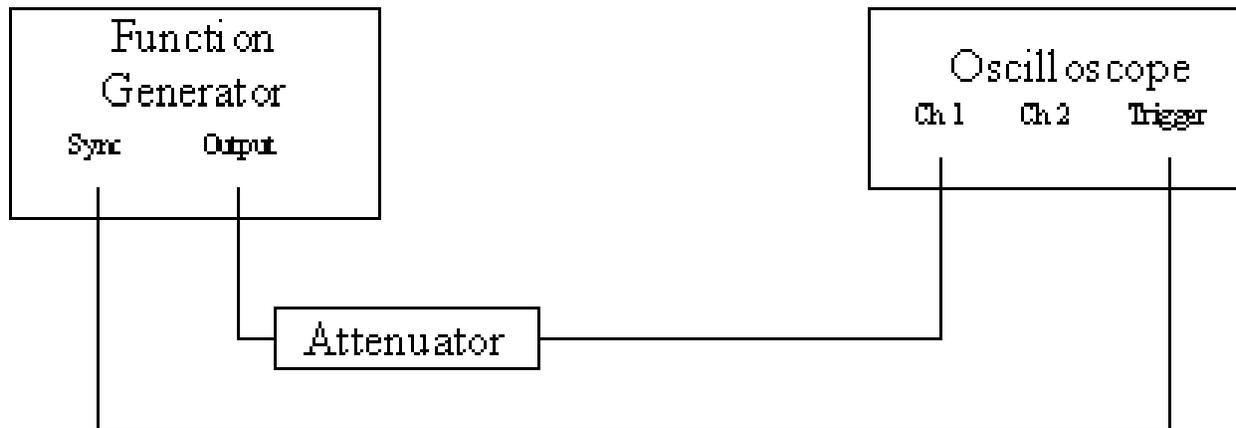

Figure 4a. Circuit diagram for measuring V_{in} .
- 1) Perform the following measurements using the setups shown in figures 4a & 4b. Once with the preamp filters set to 3 kHz and 1 kHz, then again with them set to 30 kHz and 10 kHz. Note: To compute the integral of equation 11, the range of frequencies measured must be much wider than the frequency range set on the preamp (must allow $G \rightarrow 0$ as $v \rightarrow 0$ or ∞). Note, unless otherwise stated, always use a sine wave.